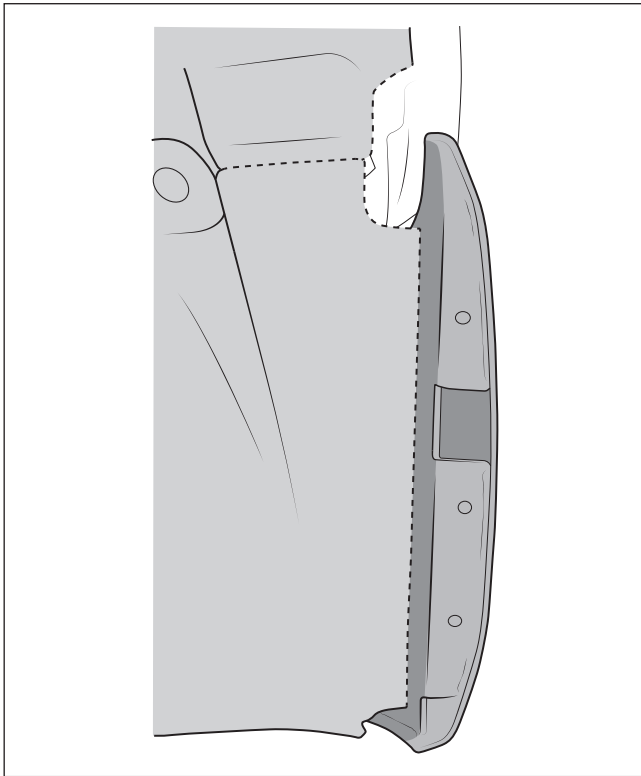

Figure 26
- If necessary, trim the front edge of both inner fender liners to provide approximately 1/2" gap between the liner and the bumper corner (fig. 26).